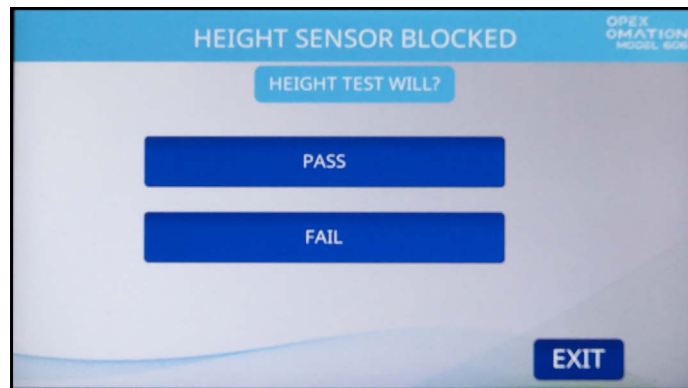

Figure 6-22: Height sensor screen
6. Choose when sorting by height the sort decision when the height sensor is blocked (Figure 6-22).